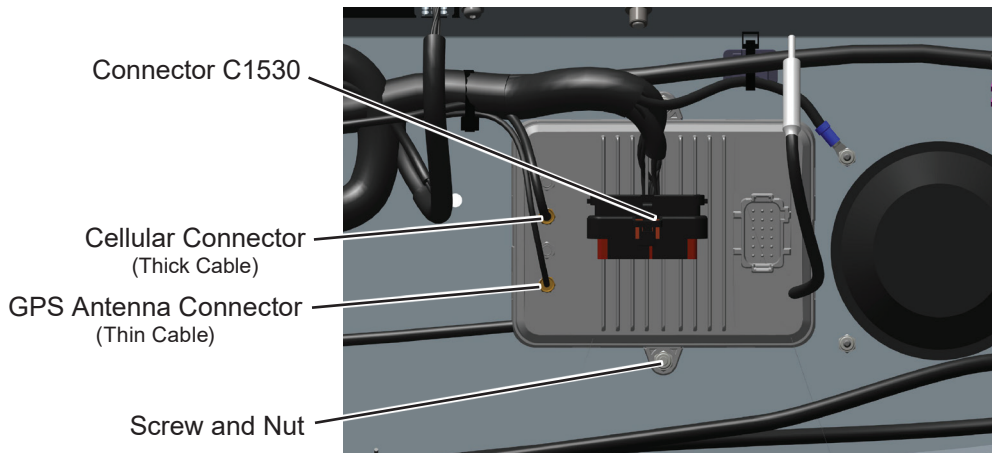

Figure 5
17. Reconnect connector C1530 to TCU. See Figure 5.
18. Reinstall cellular and GPS antenna connectors finger tight to TCU. See Figure 5. DO NOT use a wrench to tighten connectors or damage to connectors will occur.